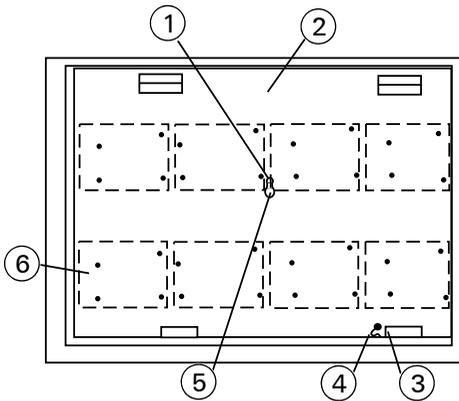

Fig. 2: ANC-8 - Chassis Plate
- 2 Assemble the chassis plate into the housing and secure using fixing screw, see Fig. 2.
- 3 Connect the chassis plate earth lead to the housing, see Fig. 2.